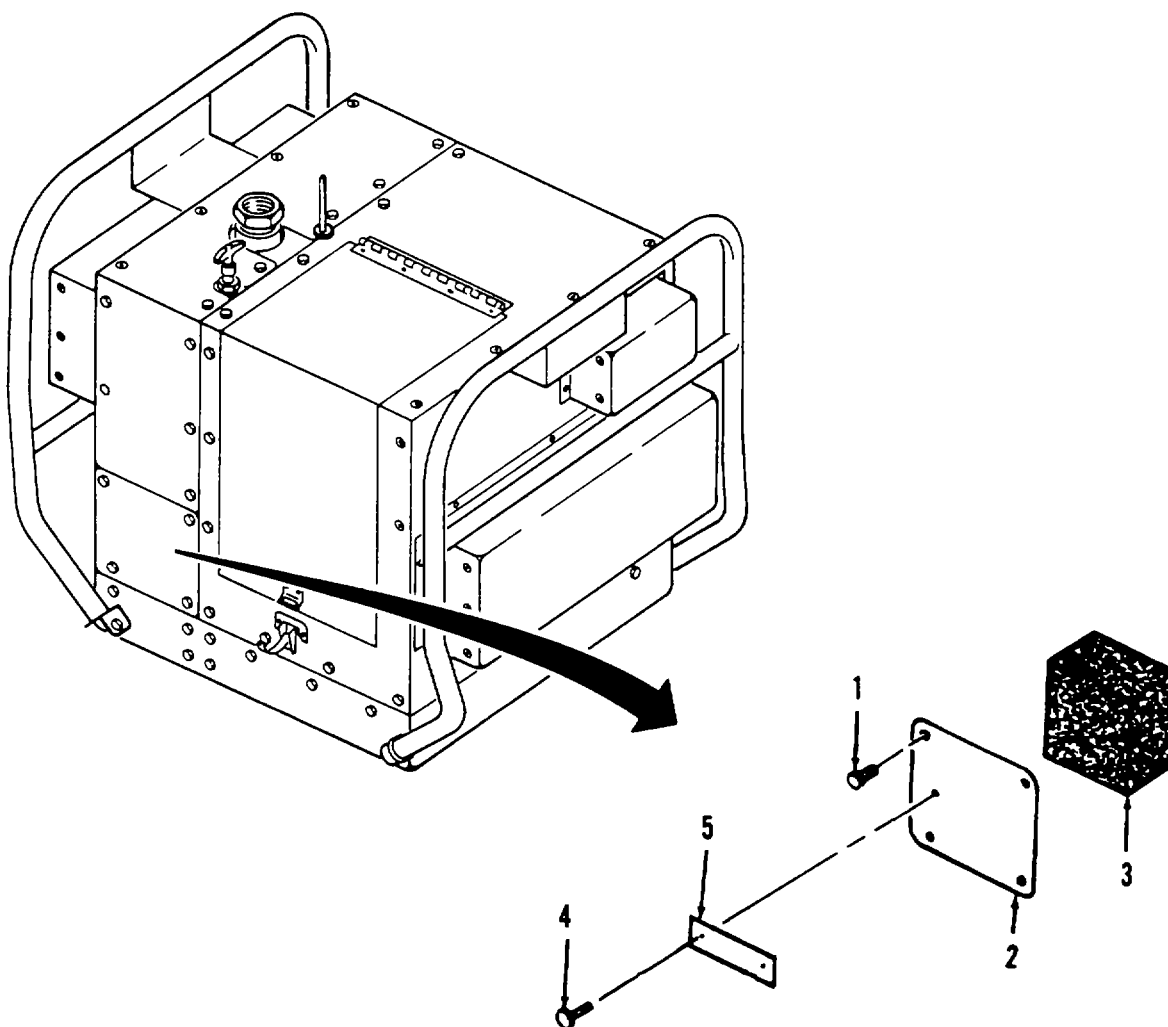

Figure 4-7. Access Cover Repair and Replacement.
a. Removal. (Refer to Figure 4-7).
- (1) Remove four screws (1) from access panel (2).
- (2) Remove access panel (2) from unit.
- (3) If foam insulation (3) is to be replaced, remove foam insulation (3) from access panel (2).
- (4) If access panel is being replaced, drill out two rivets (4) and ident plate (5).